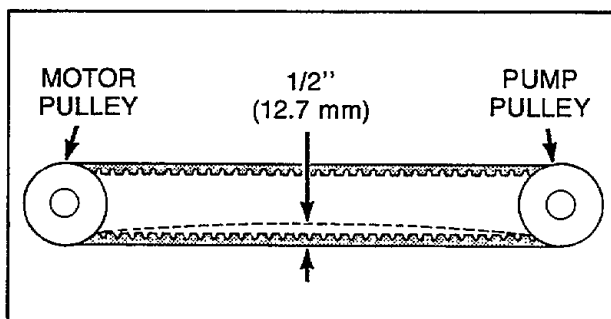

Figure 33
- Shift front of pump mounting bracket to the right or left to obtain proper belt tension. Proper tension is when belt can be deflected approximately 1/2 inch (12.7 mm) from its normal position by applying moderate pressure (1-1/2 pounds - .675 kg.) to a point midway between pulleys, *Figure 33*.